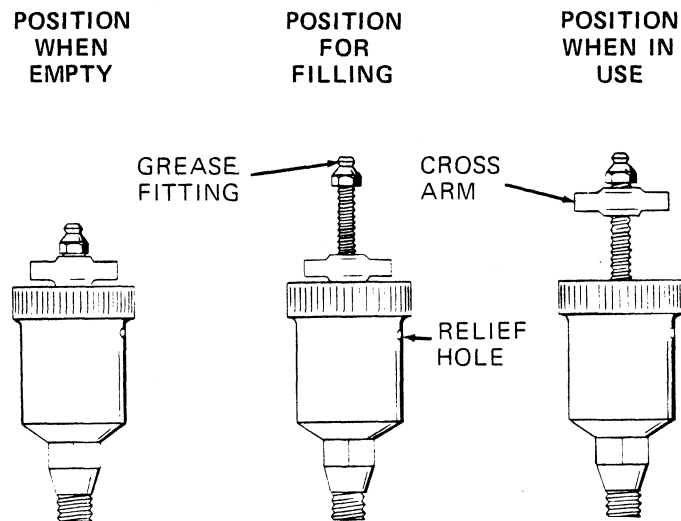

Figure 3. Automatic Lubricating Grease Cup
Before removing the seal assembly, turn the cross arm on the seal grease cup (21) clockwise until it rests against the cover (see figure 3). This will prevent the grease in the cup from escaping after the seal is removed.
Before starting the pump, fill the grease cup through the grease fitting with a good grade of No. 2 pressure gun grease until grease escapes from the relief hole. Turn the grease cup arm counterclockwise until it is at the top of the stem; this will release the spring to apply grease to the seal (see figure 3).